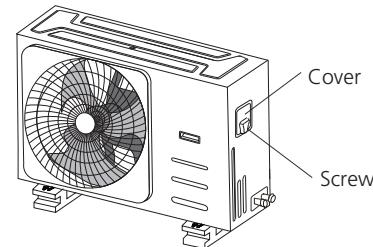

Fig. 7.1
- 2. Remove the electric cover of the outdoor unit. If there is no cover on the outdoor unit, disassemble the bolts from the maintenance board and remove the protection board. (See Fig. 7.1)